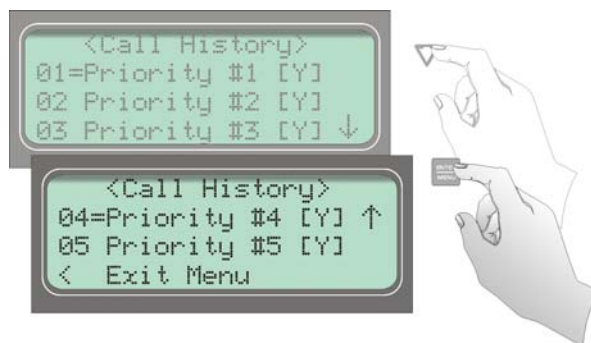

Figure 4-13 Call History Options
6. Press **▲** or **▼** to move through the call history menu choices. See Figure 4-13.